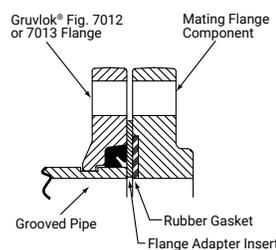

Fig. C2
**Note:** The Gruvlok® Fig. 7012 Flange requires the use of a Flange Adapter Insert when used against rubber surfaces (Figure C1), serrated flange surfaces or mating flanges with inserts (Figure C2). The Flange Adapter Insert will be exposed to the fluids in the system. Ensure that the Insert is compatible with the fluids in the systems and with adjacent piping components.